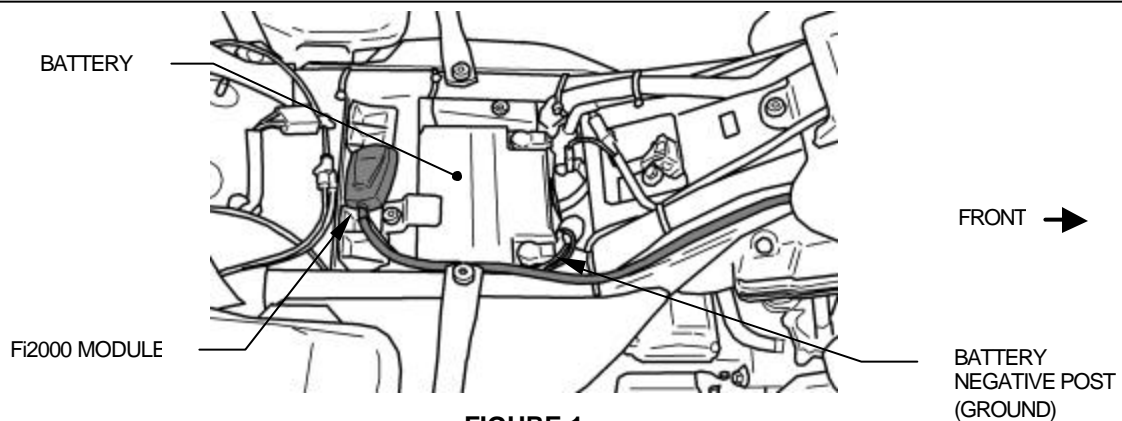
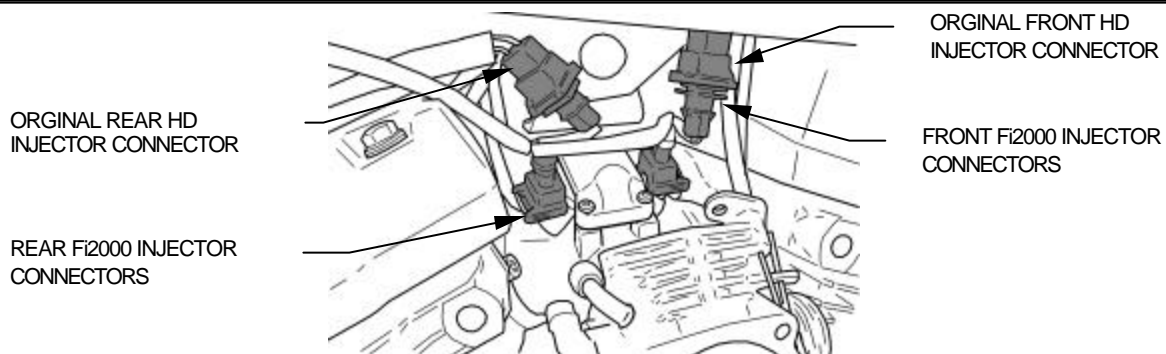

FIGURE 1
FIGURE 2
5. Lay the Fi2000 module in place, but do not attach it to the motorcycle, and run the wiring harness up to the manifold area behind the other wiring of the throttle body (See figure 1). Attach the Fi2000 module's forward injector plug, with the grey and red wire to the front injector. Take the original HD connector and insert the corresponding Fi2000 connector with the brown and red wires into it, see Figure 2.
6. Attach the Fi2000 module's rear injector plug with the blue and red wires to the rear injector. Take the original HD connector and insert the corresponding Fi2000 connector with the green and red wires into it, see Figure 2. Use one of the supplied zip-ties to secure the Fi2000 wire harness to the upper motor mount before it is routed back towards the seat area.
7. Route the BLACK wire from the Cobra module to the negative post of the battery as shown in figure 1.
8. Before re-installing the gas tank, seat and air cleaner assembly, verify your connections. Remove the door from the Fi2000 box to expose the LED's. Verify the wire connections by (1) turning the ignition on, prior to starting, and see if all three LED's are on steady. If you have no light, your ground connection (BLACK wire) has not made proper contact or your front injector connection is not complete. (2) After achieving a steady light from all three LED's, start the motorcycle, wait 15 seconds and let it idle, the green light should now be the only LED on. If all three LED's are still on after start up, verify you have attached the injector connectors correctly. Reattach the door when finished. **Note:** Make sure the ignition is turned off before changing any connection.
10. Remove the backing from the Velcro and attach the Fi2000 next to the battery as shown in Figure 1.